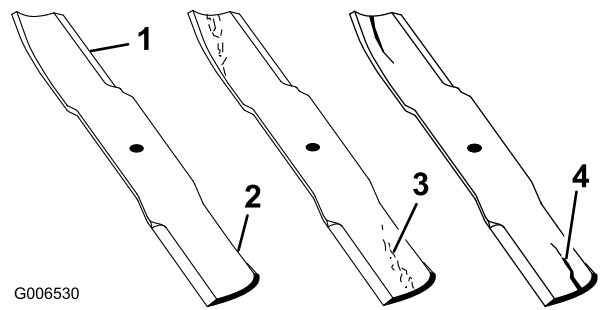

Figure 22
2. Examine the cutting ends of the blade carefully, especially where the flat and curved parts of the blade meet (Figure 22). Since sand and abrasive material can wear away the metal that connects the flat and curved parts of the blade, check the blade before using the machine. If wear is noticed (Figure 22), replace the blade; refer to Removing the Cutting Blade.
If the blade is allowed to wear, a slot will form between the sail and flat part of the blade (Figure 22). Eventually, a piece of the blade may break off and be thrown from under the housing, possibly resulting in serious injury to yourself or bystanders.